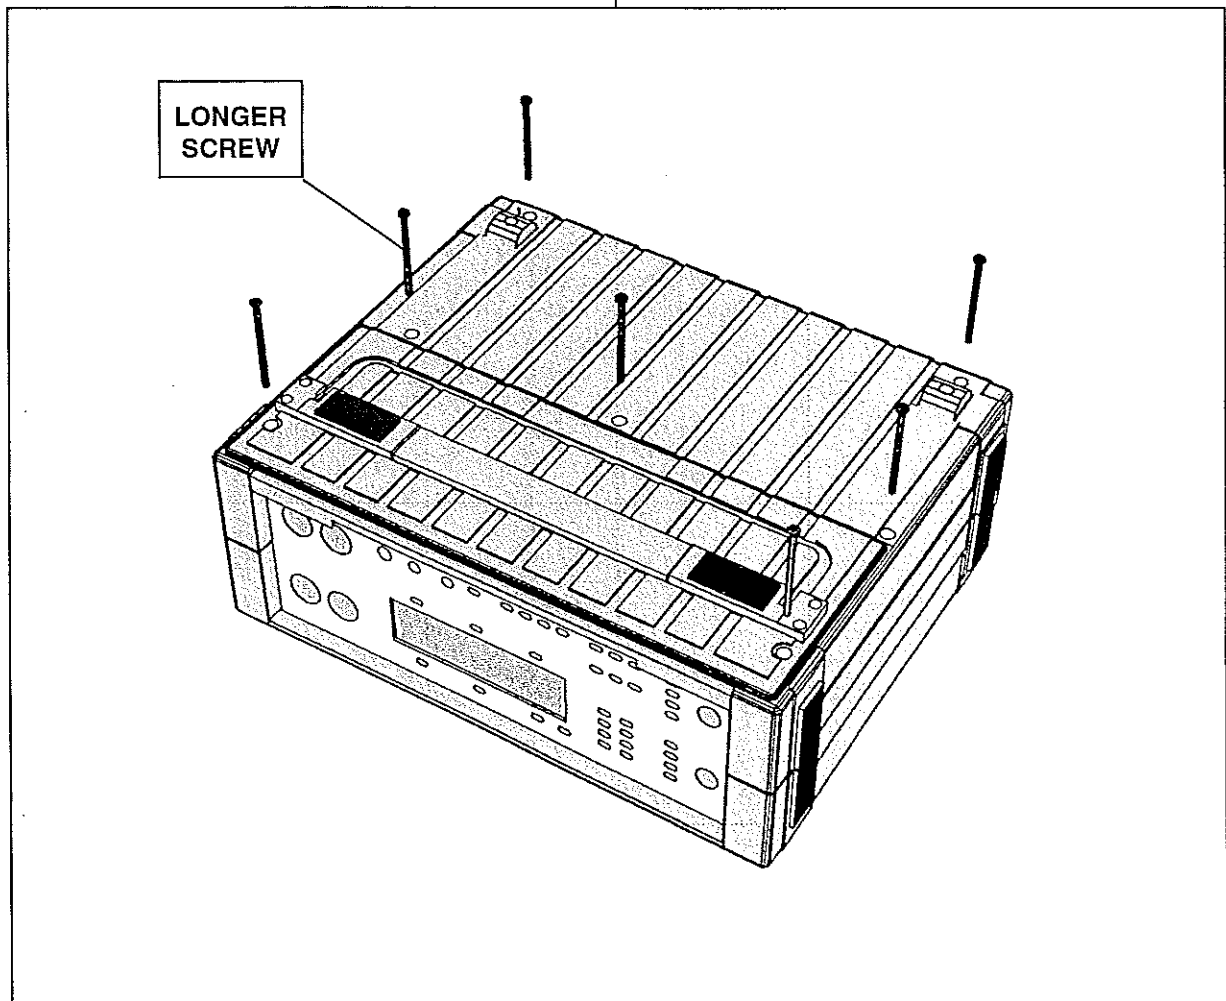

Figure 6-1 Opening the Portable One Plus Case
2. Using a Phillips-head (cross) screwdriver, remove the seven screws recessed into deep holes in the bottom of the instrument (see Figure 6-1). Do not remove the two screws holding on the rear feet or the four small screws holding the tilt bail assembly in place. Note that the screw nearest the handle is longer than the others; it must be replaced in its original location during re-assembly.